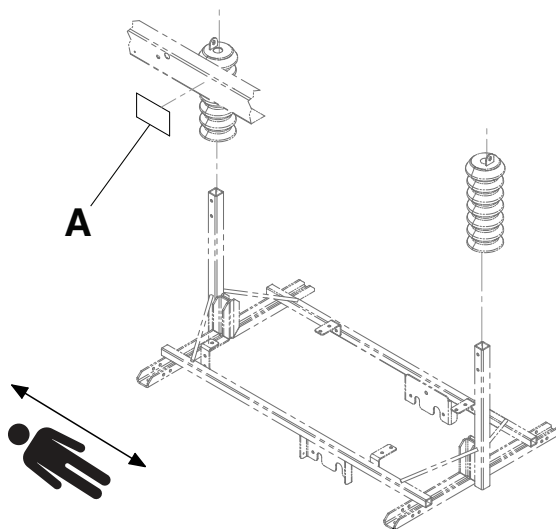

Figure 1 – Serial number location
You can find the serial number (A) on the right foot end of the litter frame (Figure 1).